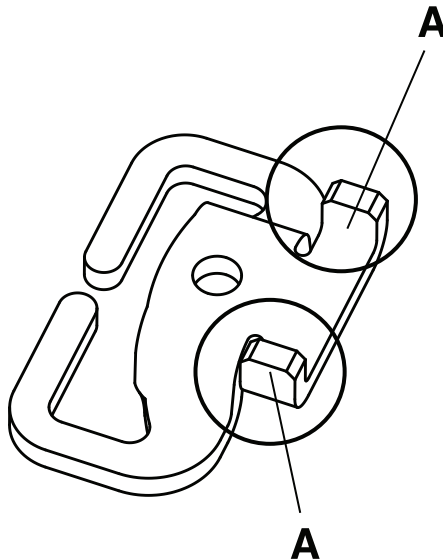
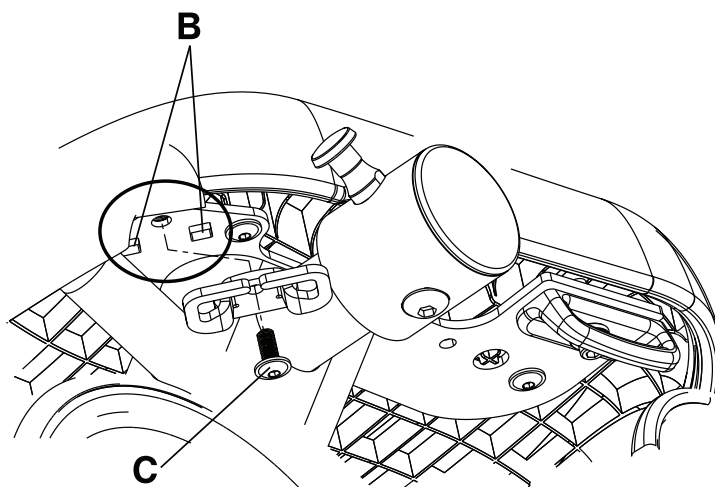

Figure 33: Lap belt bracket tabs
Figure 34: Lap belt bracket installation
- a. Fit the two tabs (A) on the bracket (Figure 33 on page 52) into the square holes on the main frame weldment (B) (Figure 34 on page 53).
- b. Install the supplied socket head cap screw (0004-671-000) (C) into the round hole on the bracket to secure the lap belt bracket to the main frame weldment (B) (Figure 34 on page 53). Using a 3/8" drive torque wrench and a 3/16" hex bit, torque the screw to 70 ± 10 in-lbs.